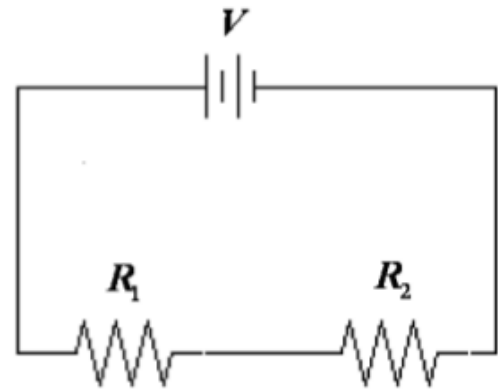
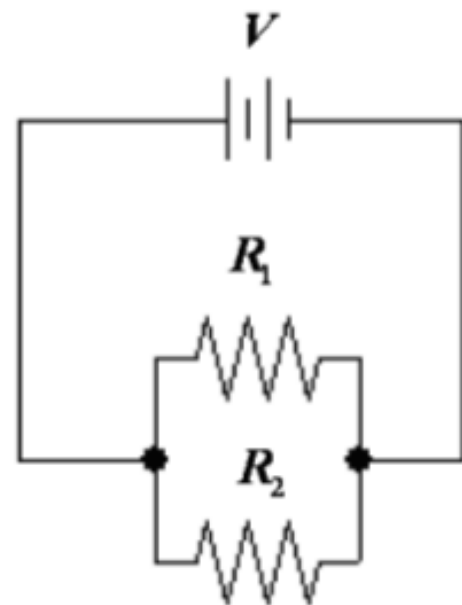

FIG. 1: Schematics of circuits illustrating resistors connected in series.
FIG. 2: Schematics of circuits illustrating resistors connected in parallel.
Two or more resistors can be connected in series (that is connected one after another as shown in Fig. 1), or in parallel (that is the current can split: there is more than one way for the current to flow as shown in Fig. 2). When two resistors R_1 and R_2 are connected in series, the equivalent resistance R_{eq} is given by
3. Consider the series circuit shown in Fig. 1. Use Ohm’s law in the form $i = V/R$ to predict the current in this circuit, if the power supply is set to 5 V. (Remember, resistors in series add.)